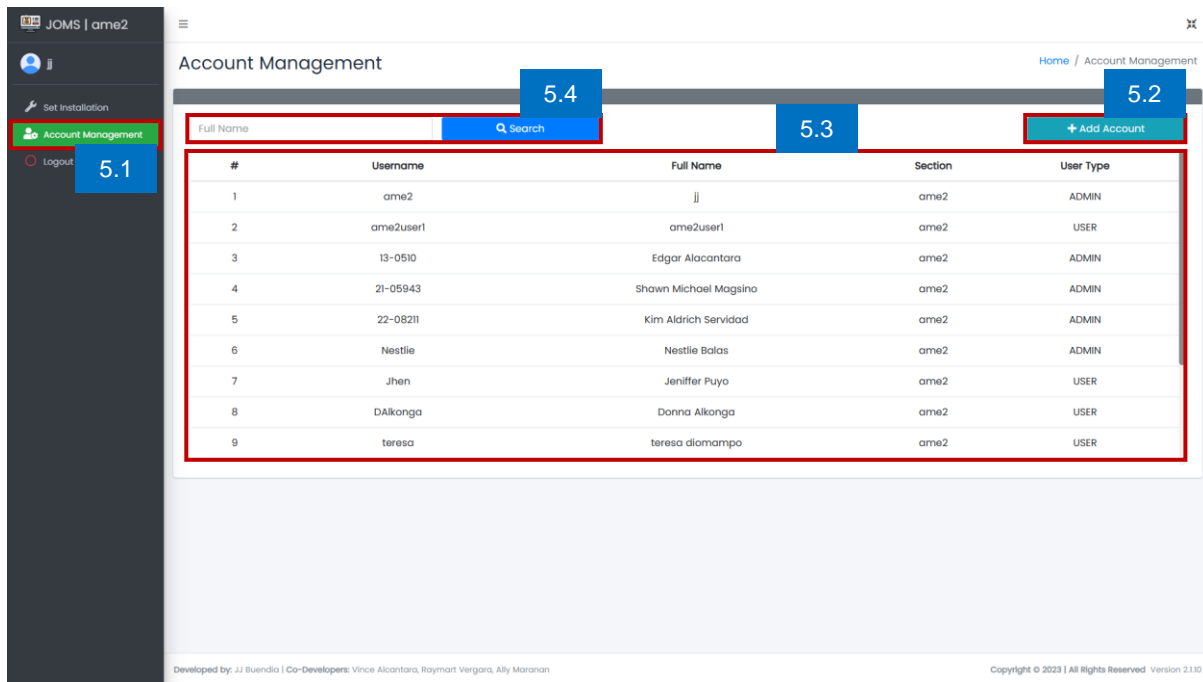

Figure 27. AME2 Account Management
- 5.1 Click the Account Management. (See Figure 27)
- 5.2 Click Add Account to create an account. (See Figure 27)
- 5.3 View table of accounts. To update, click row of data to be updated and same goes when deleting an account. (See Figure 27)
- 5.4 Search account by full name. (See Figure 27)